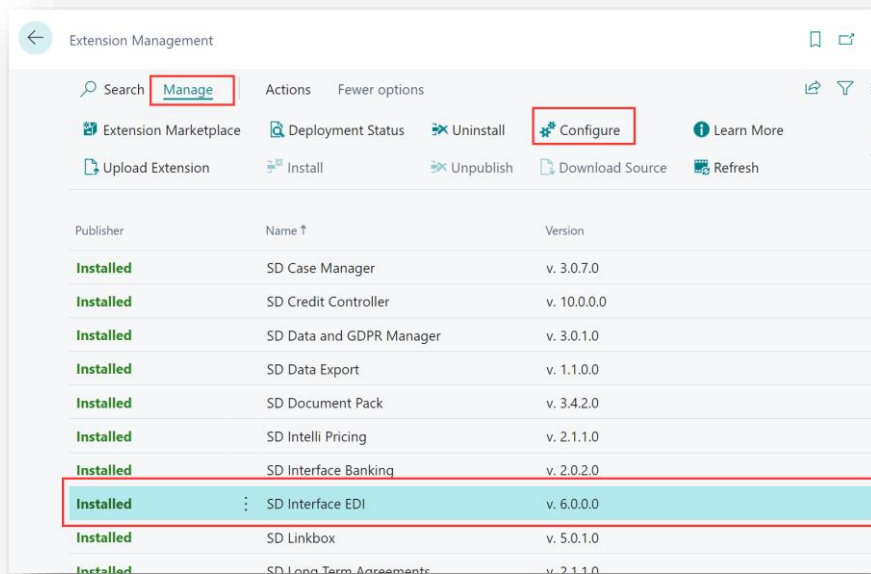

Figure 4-1
1. In the Business Central **Extension Management** list, you should see the **SD Interface EDI App** installed. Select the **SD Interface EDI App** record and from the menu, select the **Manage** group, and choose **Configure** (*Figure 4-1*).